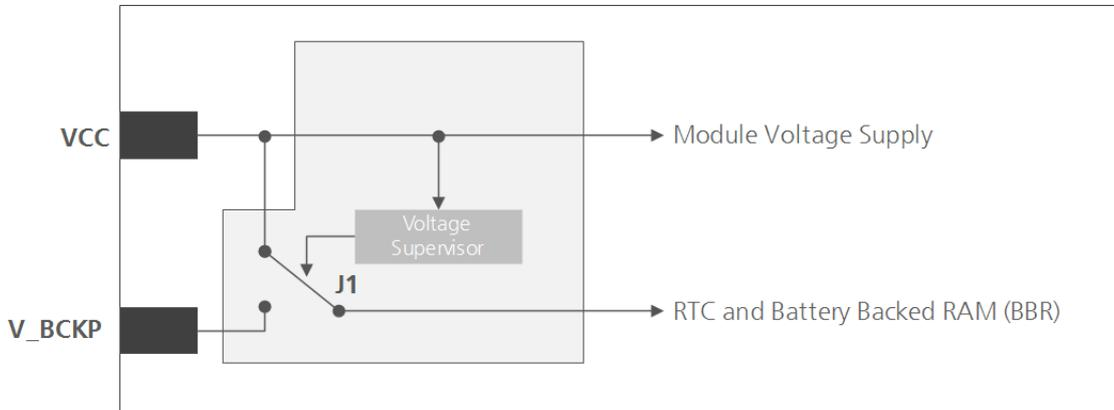

Figure 1: Backup battery and voltage (for exact pin orientation, see NEO-M8P Data sheet [1])
- ⚠️ While power is supplied to the NEO-M8P module through the **VCC** pin, the backup battery is disconnected from the RTC and the BBR to avoid unnecessary battery drain (see Figure 1). In this case, **VCC** supplies power to the RTC and BBR.